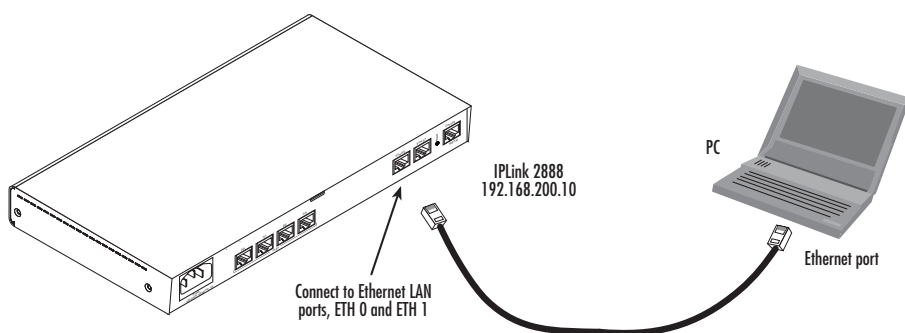

Figure 3. Connecting to the PC's ENET port
1. To access the IPLink configuration, connect a PC's Ethernet port to the IPLink's LAN port (see **Figure 3**). Use the black Ethernet cable included with your IPLink for this purpose.